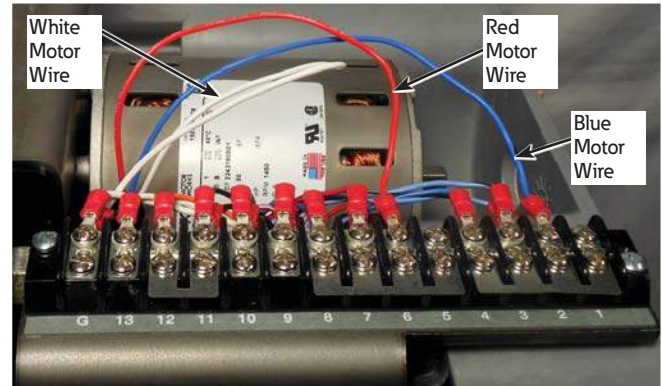

Figure 3. Disconnection of wires
4. Use a Phillips screwdriver to disconnect the white motor wire located on terminal "G," the red motor wire located on terminal #6 and the blue motor wire located on terminal #2. Refer to Figure 3.